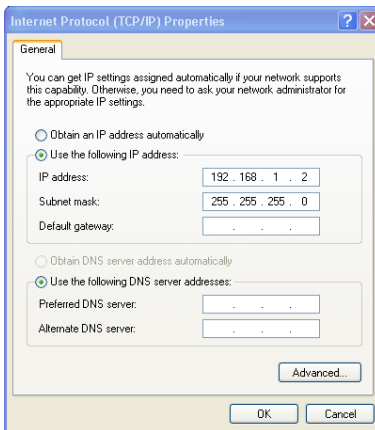

Figure 7: Internet Protocol (TCP/IP) Properties Window
6. Select Use the following IP Address, and fill in the details as shown in Figure 7. You can use any IP address in the range 192.168.1.1 to 192.168.1.255 (excluding 192.168.1.39) that is provided by your IT department.